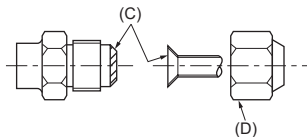

Fig. 4-2
### 4.2. Connecting pipes (Fig. 4-1) (Fig. 4-2)
- The indoor parts of the drain pipe should be wrapped with polyethylene foam insulation materials (specific gravity of 0.03, thickness of 9 mm, 23/64 inch or more). [Fig. 4-2]
- Apply thin layer of refrigerant oil to pipe and joint seating surface before tightening flare nut. (A)
- Use 2 wrenches to tighten piping connections. (B)
- Apply refrigerating machine oil over the entire flare seat surface. (C)
- Use the flare nuts for the following pipe size. (D)